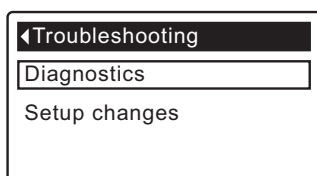

FIG. 87
2. To display the Diagnostics screen from any of the rolling status screens (when an error code is not displayed), press the SELECT (O) button to display the **Main menu**.
4. Press the SELECT (O) button to display the Advanced settings menu.
6. Press the SELECT (O) button to display the Troubleshooting menu (See Figure 87).
1. From any of the rolling status screens, press the SELECT (O) button to display the **Main menu**.
3. Press the SELECT (O) button to display the Advanced settings menu.
5. Press the SELECT (O) button to display the Troubleshooting menu (See Figure 87).
- **Cancel** will return to the Troubleshooting menu (Figure 87).
9. Press the SELECT (O) button.